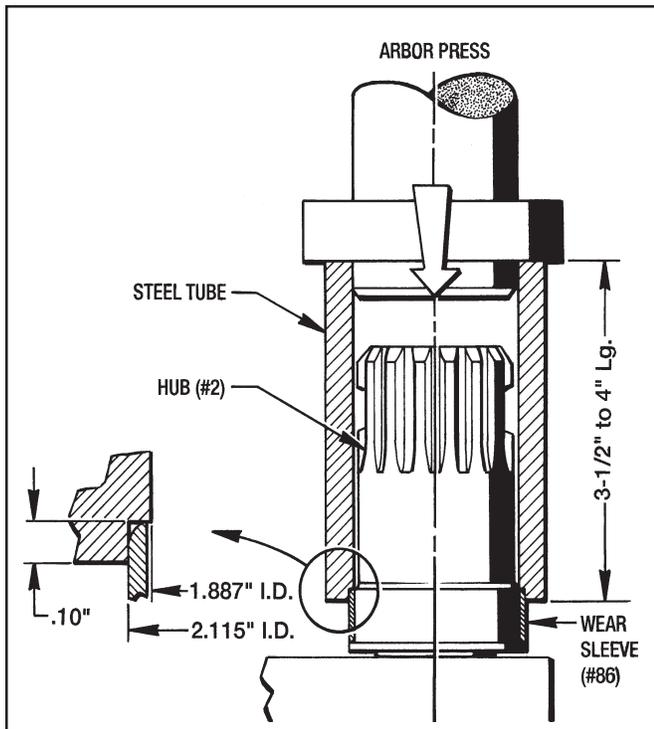

Figure 7.4 - Installing Wear Sleeve(#86)
1. If the Wear Sleeve (#86) was removed during Disassembly then a new Wear Sleeve will have to be pressed on the Hub (#2) with an Arbor Press using appropriate tooling. (See Figure 7.4)